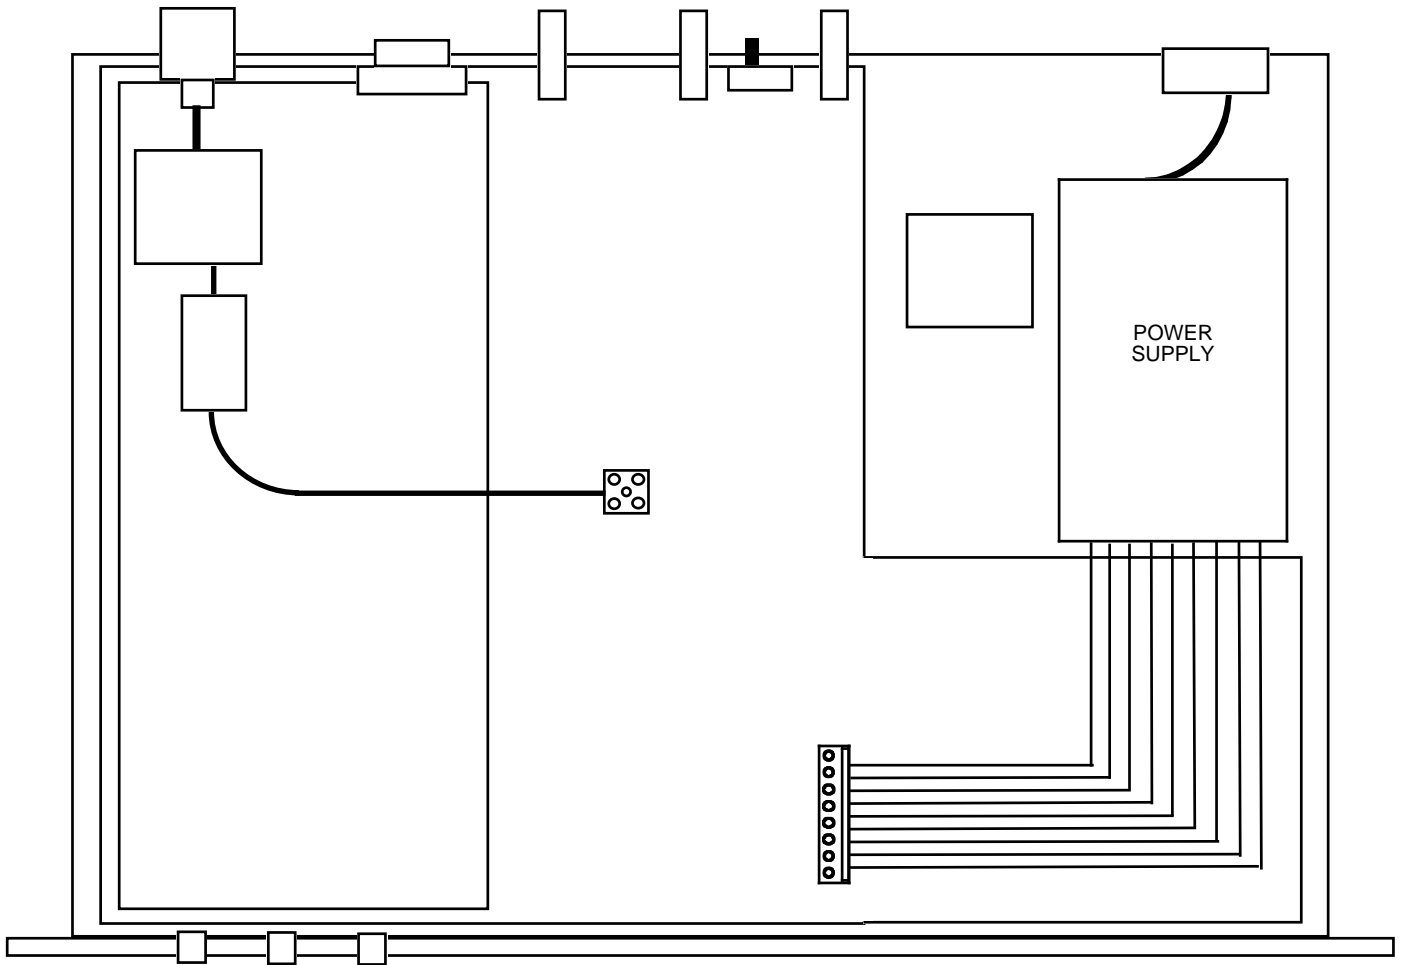

FIGURE 2.0 2116-44# Mechanical Assembly
2.1 Mechanical - The 2116-44# consists of one RF PCB housed in a 1 RU (1 3/4 inch high) by 12 inch deep chassis. A switching, ± 12 , +24, +5 VDC power supply provides power for the assemblies. The 2116-44# can be secured to a rack using the 4 holes on the front panel. Figure 2.0 shows how the 2116-44# is assembled.